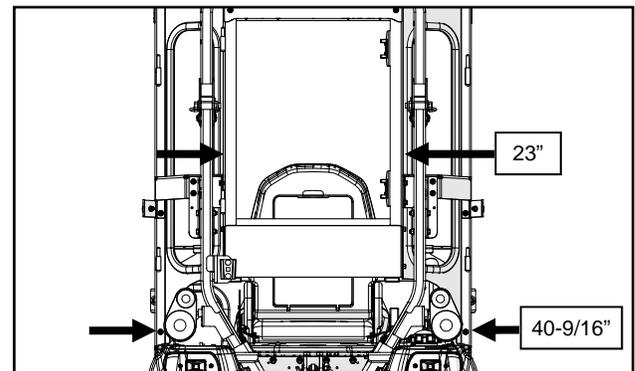

Fig. 10.2 (Measure Rear Legs Left to Right)
- 10.2** Adjust the bottom of the rear legs side to side to get the outer surfaces approximately centered on the vehicle and about 40-9/16" apart outside to outside. See figure 10.2.
- 10.3** Measure the distance between the outside of the rear flanges of the rear legs. Adjust the rear legs to get as close to 23" as possible at *both* the top and bottom of the flanges. See figure 10.2. Tighten the hardware securing the rear legs to the contours and ROPS brackets.